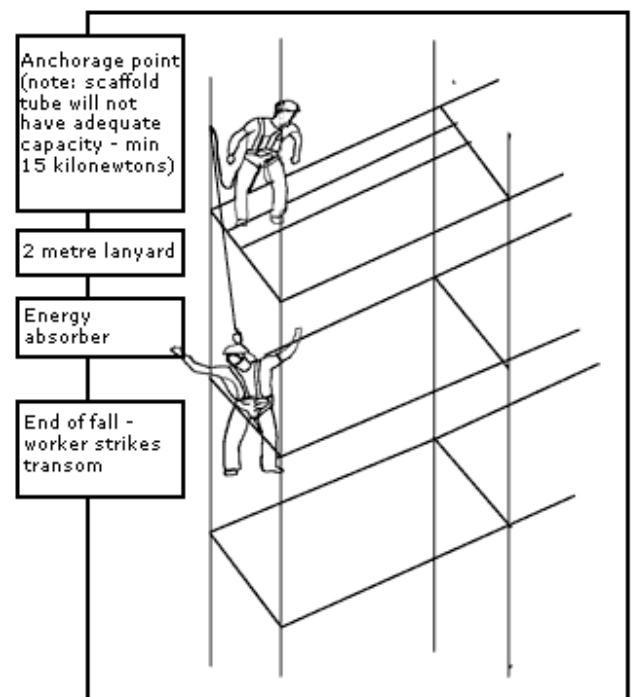

Figure 1: Why harnesses are not acceptable for normal scaffolding work (i.e. scaffolds built from the ground up).
- it is possible for scaffolders to hit an object prior to their fall being arrested (see Figure 1).